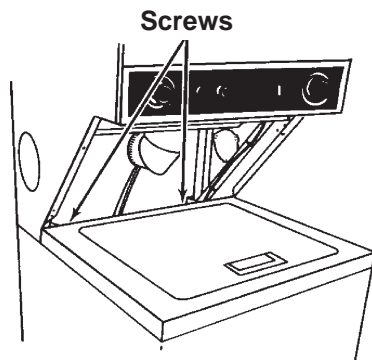

Fig. 5-7
3. Remove the two screws located behind the washer top. (Fig. 5-7)